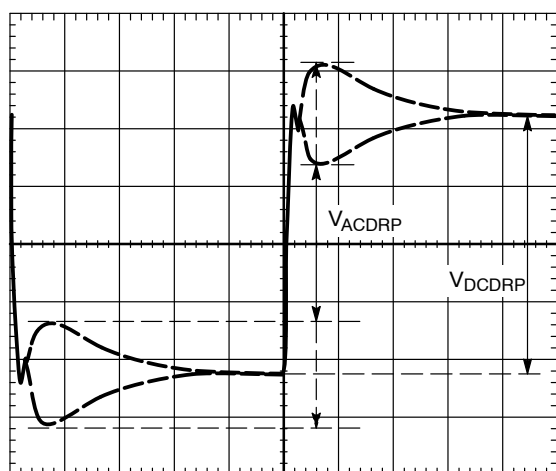

Figure 47. AC Loadline Waveform
5. The resulting waveform will be similar to that shown in Figure 47. Use the horizontal cursors to measure V_{ACDRP} and V_{DCDRP} as shown in Figure 47. Do not measure the undershoot or overshoot that occurs immediately after the step.